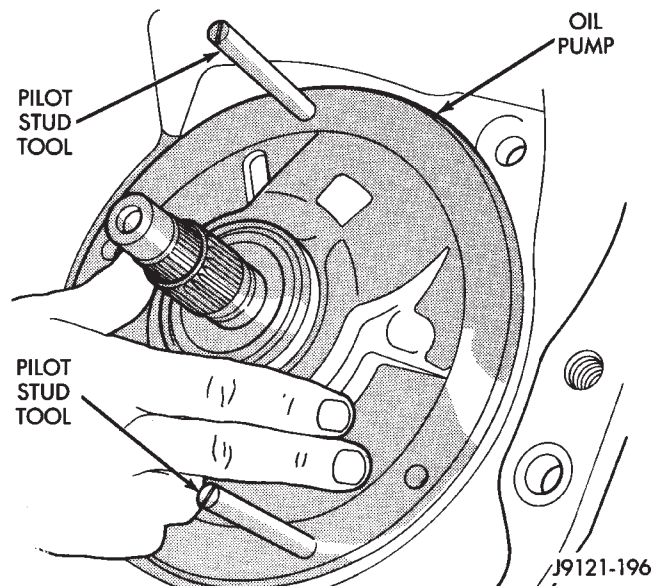

Fig. 164 Installing Oil Pump Assembly In Case
(35) Lubricate oil pump body seal with Ru-Glyde, or petroleum jelly. Lubricate pump shaft seal lip with petroleum jelly.
(36) Install oil pump (Fig. 164). Align and position pump on pilot studs. Slide pump down studs and work it into front clutch hub and case by hand. Then install 2 or 3 pump bolts to hold pump in place.
(37) Remove pilot stud tools and install remaining oil pump bolts. Tighten bolts alternately in diagonal pattern to 20 N•m (15 ft. lbs.).